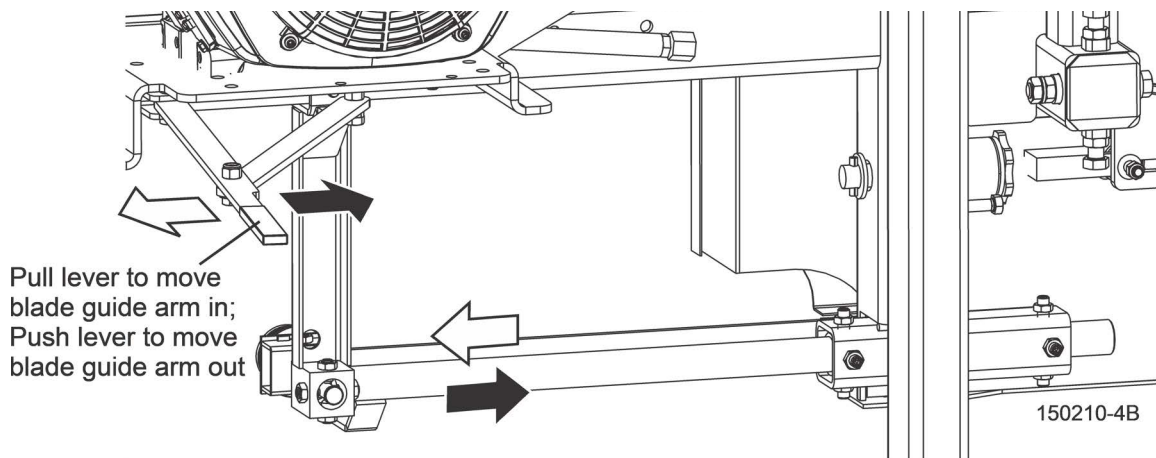

FIG. 6-5
3. Pull the lever toward you to move the arm in; push the lever away from you to move the arm out. See FIG. 6-5.